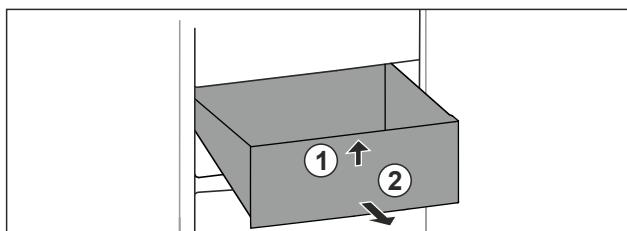

Fig. 67
- ▶ Lift up drawer at the front. Fig. 67 (1).
- ▶ Remove drawer to the front. Fig. 67 (2).